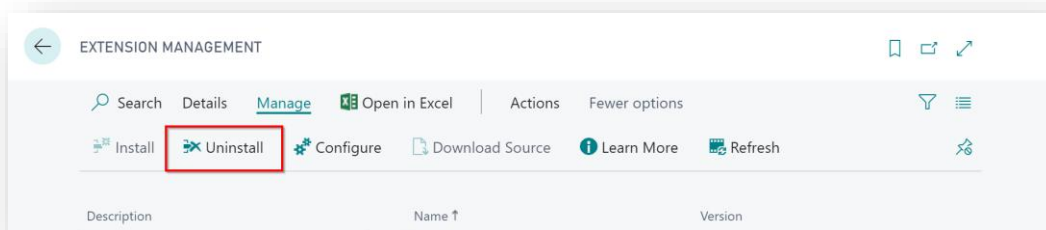

Figure 5-2
3. Select the **SD Billing Engine** App and choose the **Uninstall** Action (Figure 5-2).